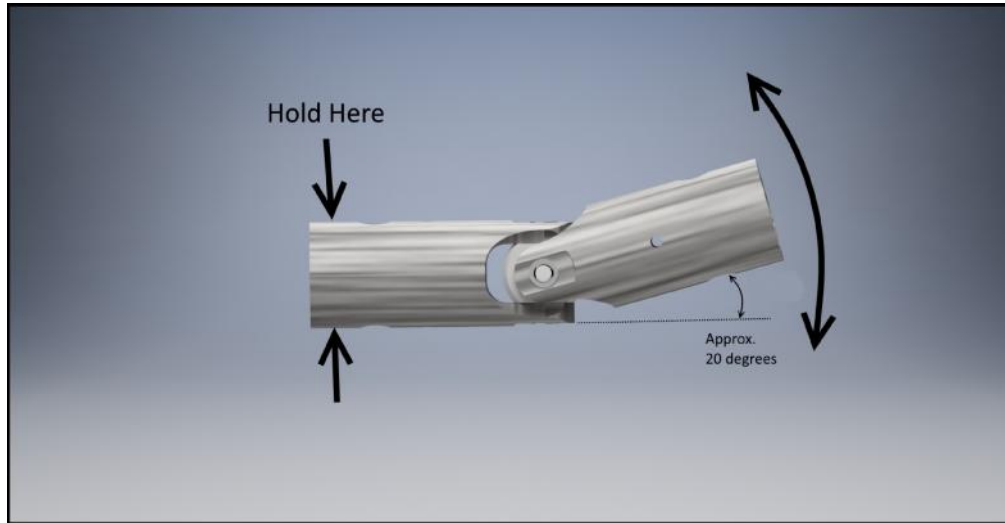

Figure 3
3. Hold the still-connected side of the U-joint, as shown in Figure 3.
4. Hold the free end of the U-joint up, above the neutral axis, as shown in Figure 3.
1. Using a permanent ink marker, mark both half pins with a vertical line as shown in Figure 3.